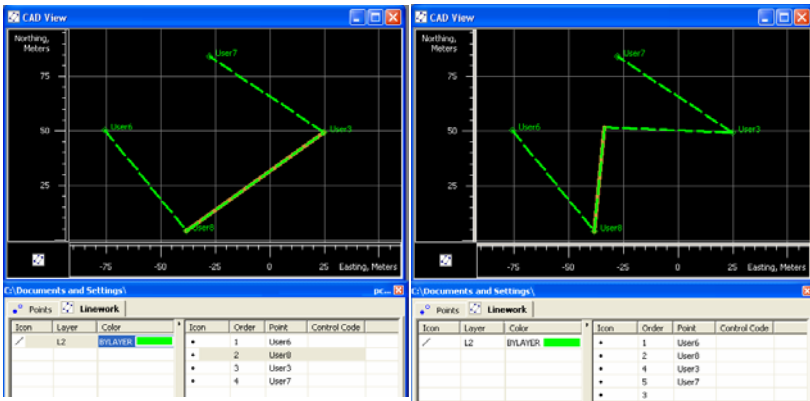

Figure 5-32. Inserting a New Point to the Selected Line
3. Click at the desired place in the CAD view. A new point will be created, the selected line will be deleted and three points (the start and end point of selected line and the new point) will be appended to the line (Figure 5-32).